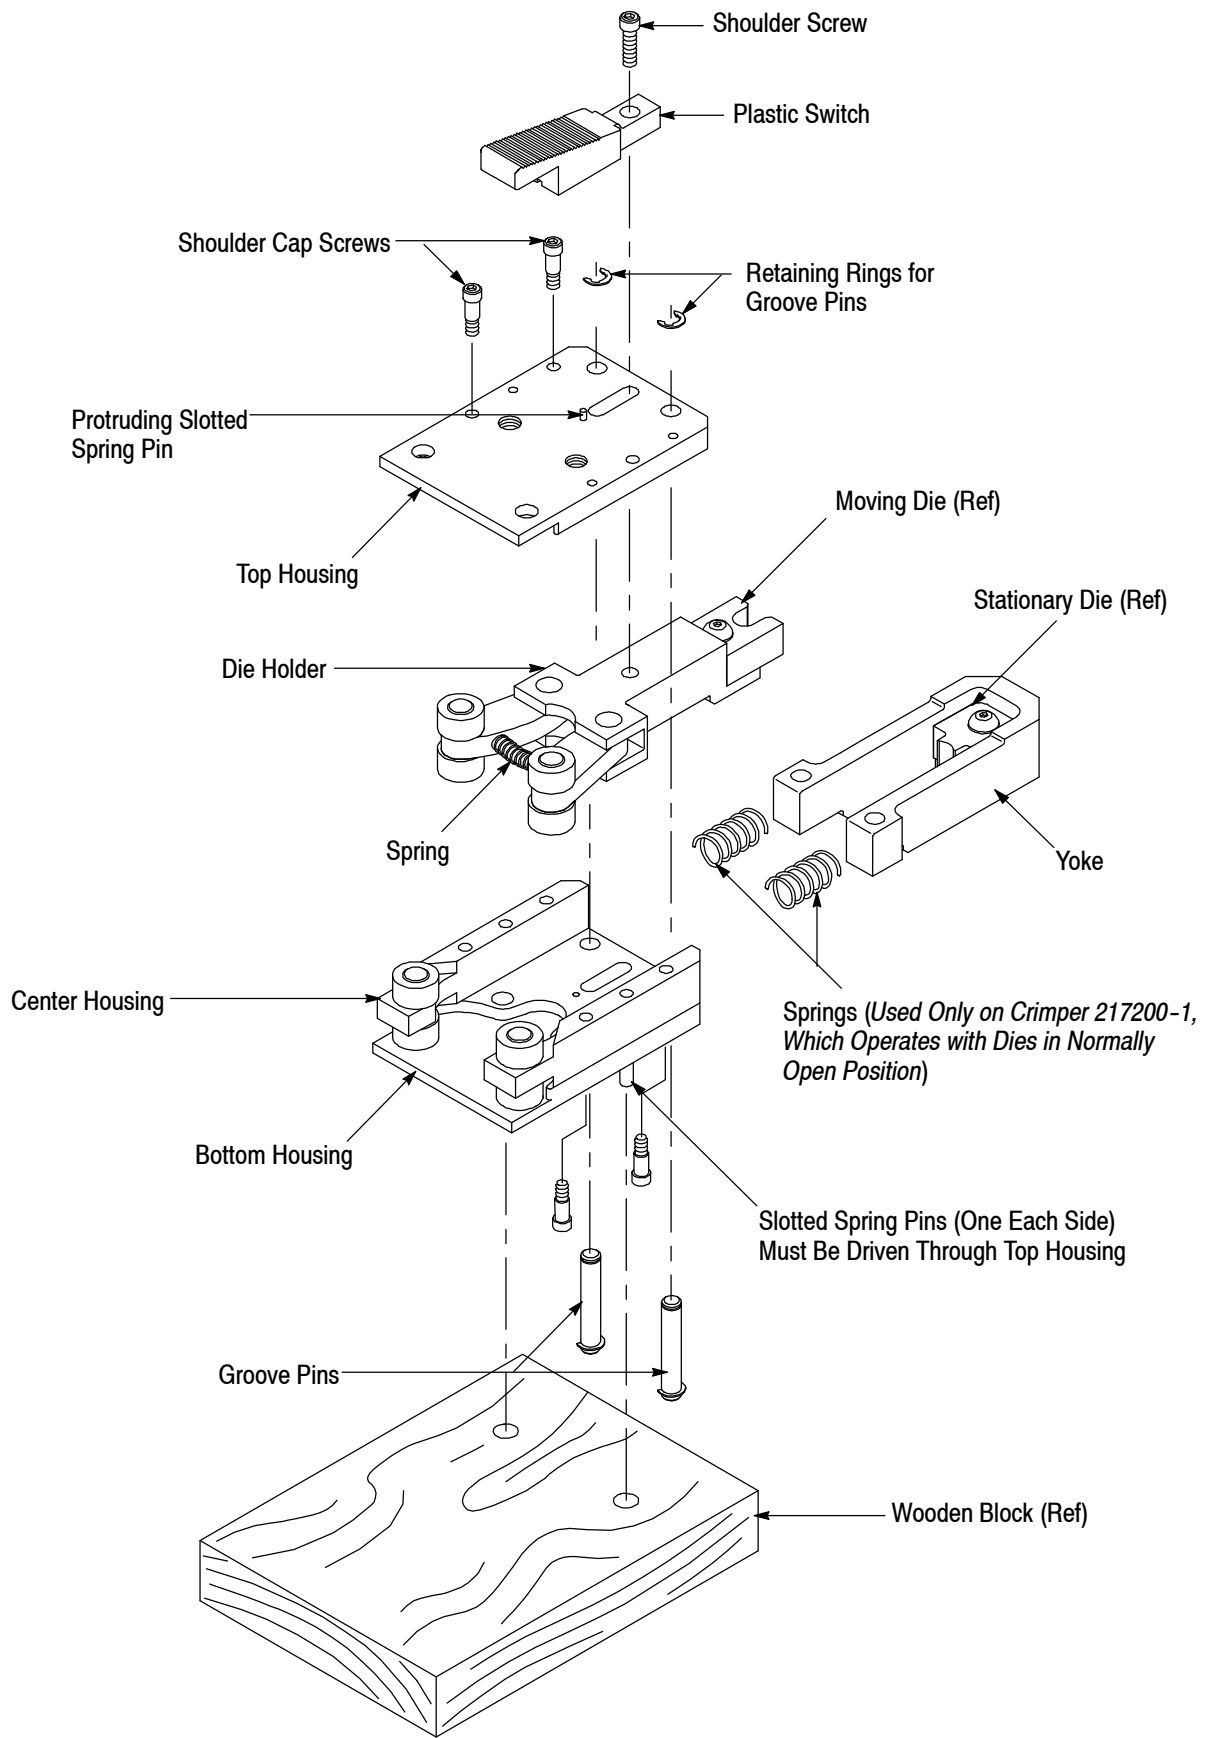

Figure 4
1. Lift the die holder assembly out from the center housing while being careful that the pins and rollers *do not* fall out of the links which are connected to the bottom of the die holder. Refer to Figure 4.
### 6.1. Disassembly (Refer to Figure 4)
**6.2. Assembly** (Refer to Figure 4)